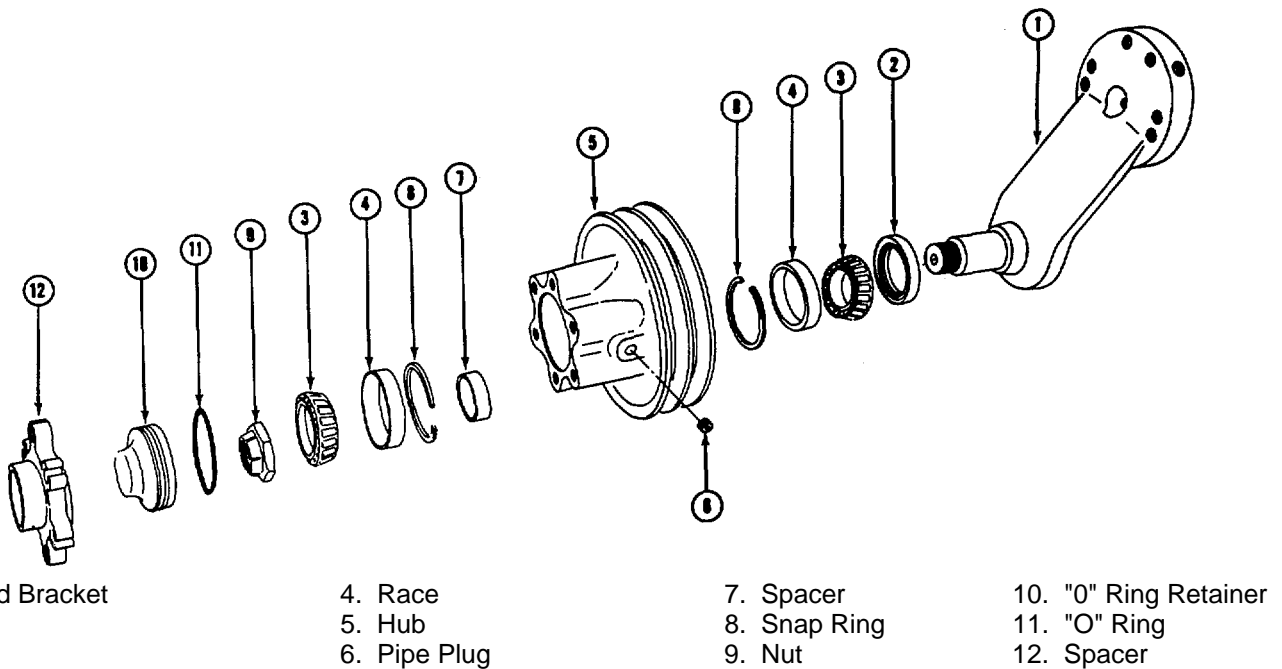

Fig. 8-4, (N 10839). Fan hub assembly with tapered roller bearing and spacer
1. Remove pipe plugs (6, Fig. 8-4), drain oil from hub.
2. Remove spacer (12), "O" ring retainer (10), locknut (9) and washer (if used).
3. Remove pulley (5) from shaft, remove front bearing (3) and spacer (7) from pulley.
4. Remove seal (2) and rear bearing (3), discard seal.
7. Bearing races (4) may be removed with a flat punch by striking, from the back side, alternately from side to side until the race drops out.
8. If bearing races are removed, inspect snap rings (8). Do not remove snap rings unless damaged.